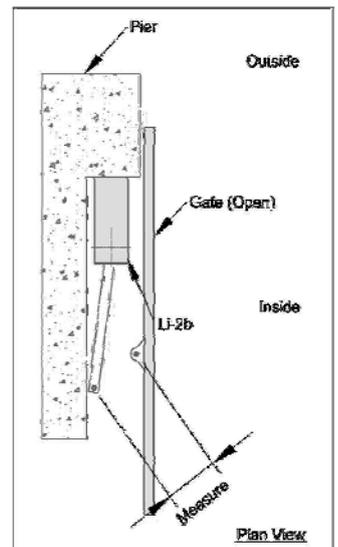

Figure 8: Re-measure length of secondary arm.
2. Mark a point on the gate suitable for the gate bracket. Holding the gate bracket in position, measure the distance between the hole centres on the gate bracket and primary arm. Move the primary arm to its maximum open position. Open the gate and measure the distance again. (See figure 8). If the length has changed then the gate bracket must be repositioned and the same process repeated until the dimensions remain the same for both positions. **Be careful that the secondary arm does not conflict with the drive shaft of the primary arm.**